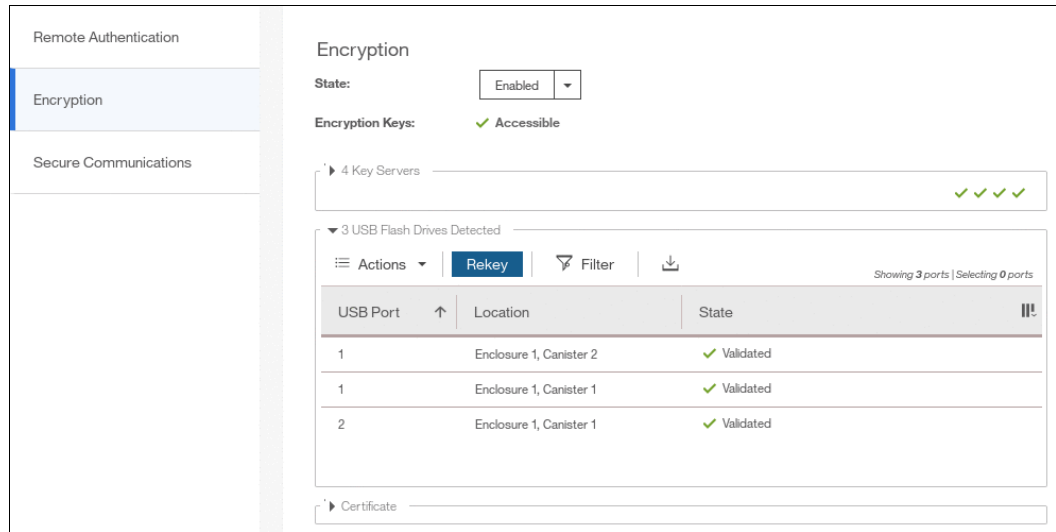

Figure 13-79 Start rekey on USB flash drives provider
2. Verify that all USB drives plugged into the system are detected and show as Validated, as shown in Figure 13-79 on page 757. You need at least three USB flash drives, with at least one reported as Validated to process with rekey.